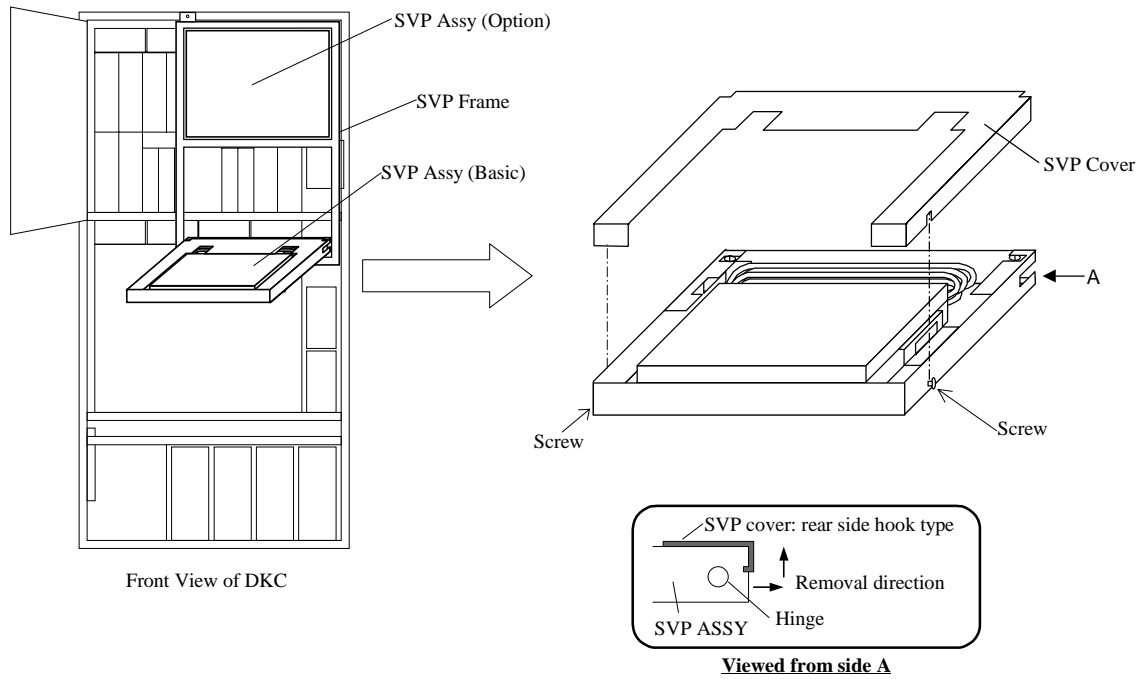

Fig. 3.15-10 Removing SVP cover
- c. Attach the SVP cover. (See Fig. 3.15-10.)